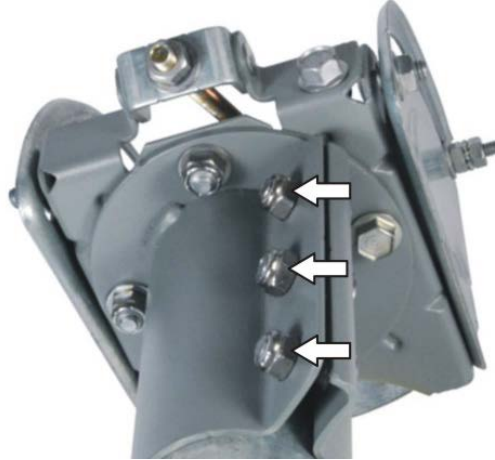

Figure 24: Az/El canister nuts
1. Loosen the three Az/El canister nuts shown in Figure 24 enough to allow the antenna assembly to rotate freely on the mast.